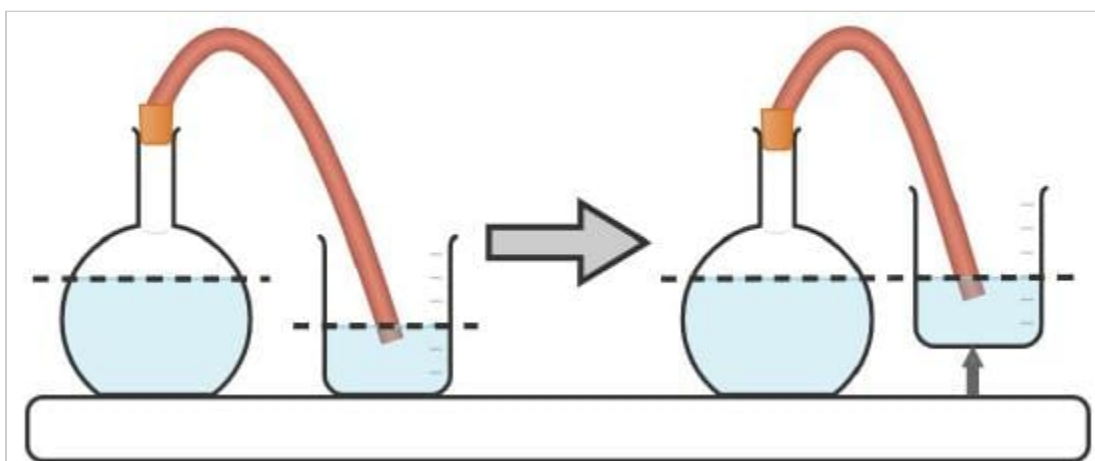

Figure 9.1.2: Pressure Equalization Procedure.
3. **Leveling:** Manually raise or lower the beaker until the water level (meniscus) in the beaker is at the exact same height as the water level in the flask (Figure 9.1.2). When levels match, internal pressure equals atmospheric pressure.